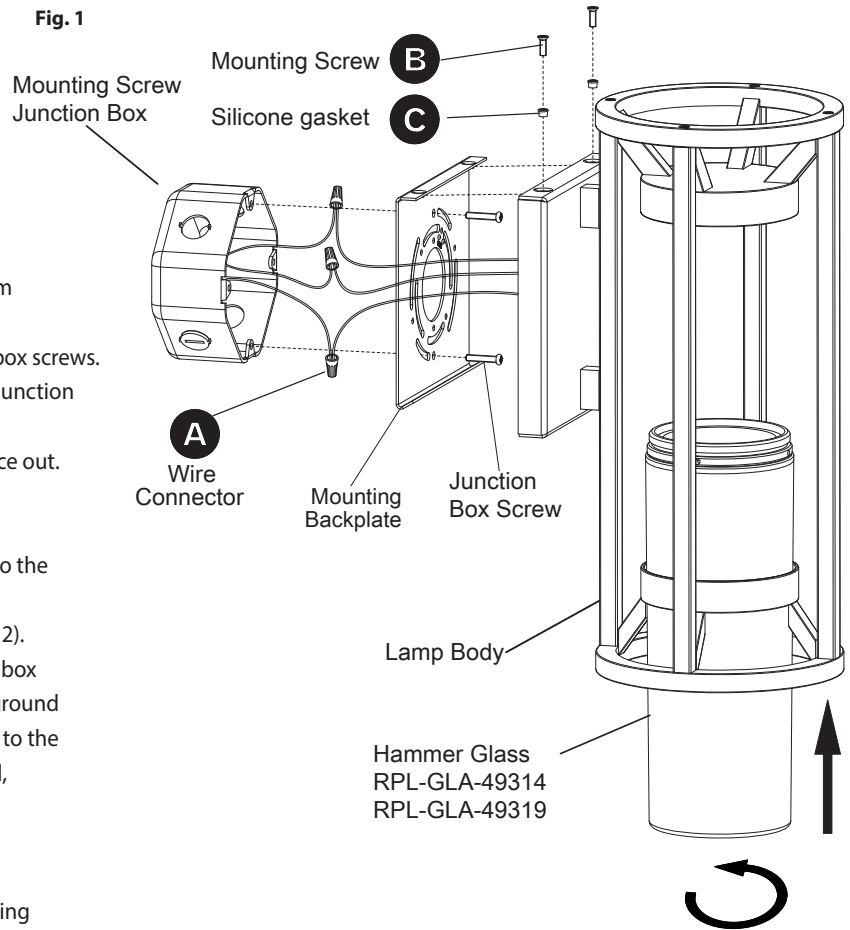

Fig. 2 Wiring
CONNECTING THE WIRES (Fig. 2)
6. Connect the fixture's wires to junction box wires as shown (Fig. 2). Make sure that all wire connectors (A) are secure. If your outlet box has a green or bare copper ground wire, connect the fixture's ground wire to it. Otherwise, connect the fixture's ground wire directly to the back plate using the screw provided. After wires are connected, tuck them carefully inside the junction box.